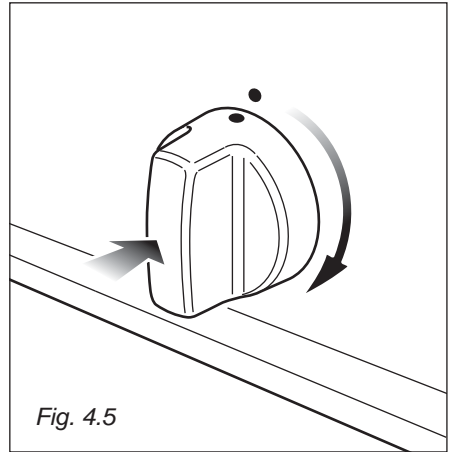

Fig. 4.5
- 2) Lightly press and turn the temperature knob clockwise (fig. 4.5) to the   position (fig. 4.1).